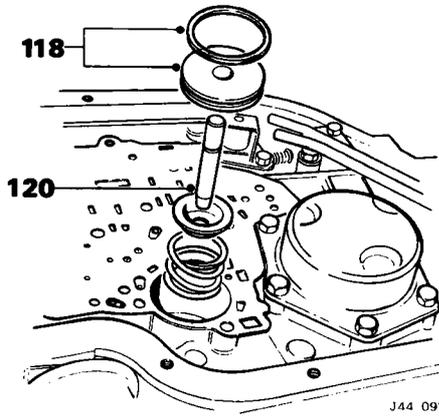

Fig. 17
- 118. Check the piston and oil seal ring (Fig. 17) for damaged oil ring groove, check that the oil ring is free to move.
- 120. Check the fit of the servo pin (Fig. 17) to the piston.